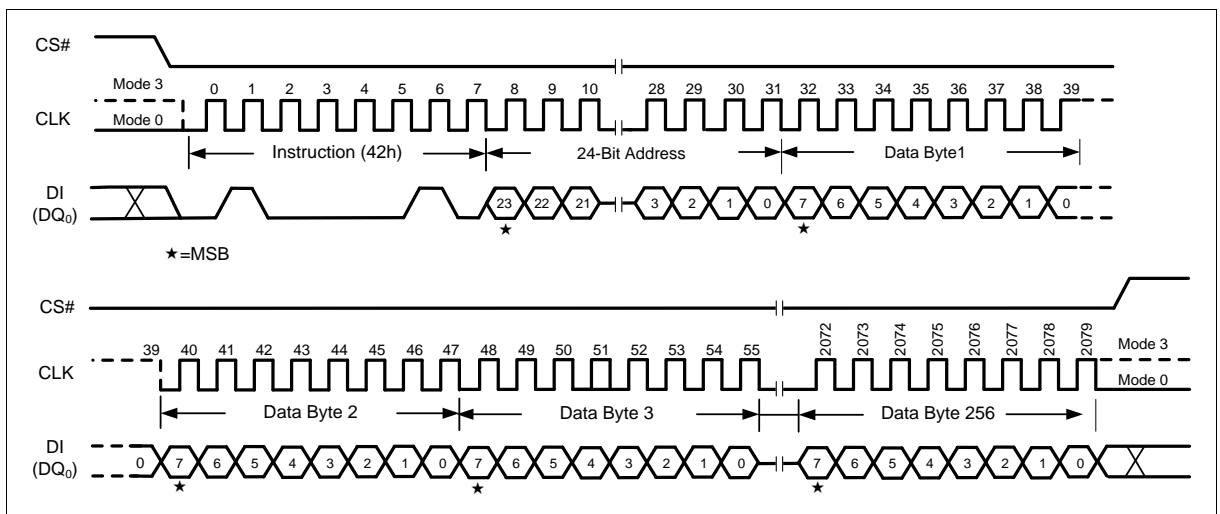

Figure 60 Program Security Sectors Instruction (SPI Mode only)
The Program Security Sector instruction sequence is shown in Figure 60. The Security Sector Lock Bit (LB) in the Status Register-2 can be used to OTP protect the Security Sectors. Once a lock bit is set to 1, the Security Sector will be permanently locked and Program Security Sector instruction will be ignored.